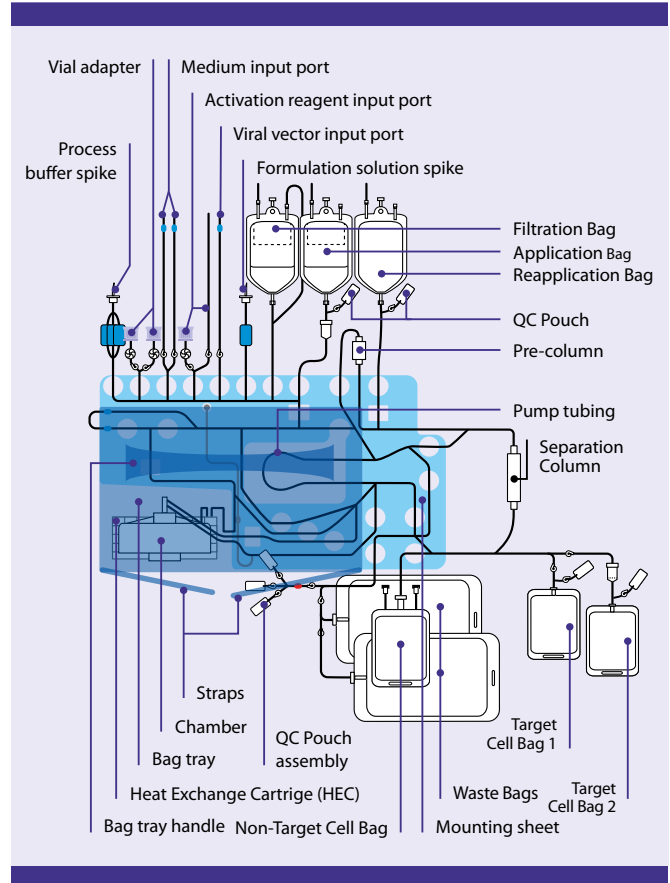

Figure 1.: Components of the CliniMACS Prodigy TS 620
5. Read the bar code on the tubing set label with the bar code reader. Alternatively, press edit to enter part number (P/N) and batch code (LOT) manually with the keyboard shown on the screen. The components of the CliniMACS Prodigy TS 620 are shown in figure 1.